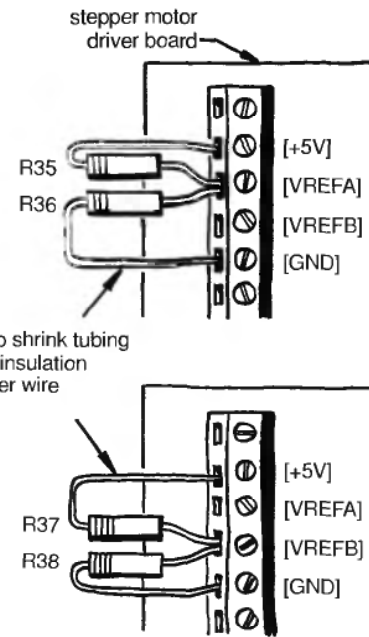

Figure 4.7
6. R10, 10kΩ potentiometer [+] mounted on the front panel (upper window voltage); this pot can be replaced by two resistors, R35 and R36 as shown in Figure 4.7.
7. R11, 10kΩ potentiometer [+] mounted on the front panel (lower window voltage); this pot can be replaced by two resistors, R37 and R38 as shown in Figure 4.7.
3. Connect resistors as in Figure 4.7.